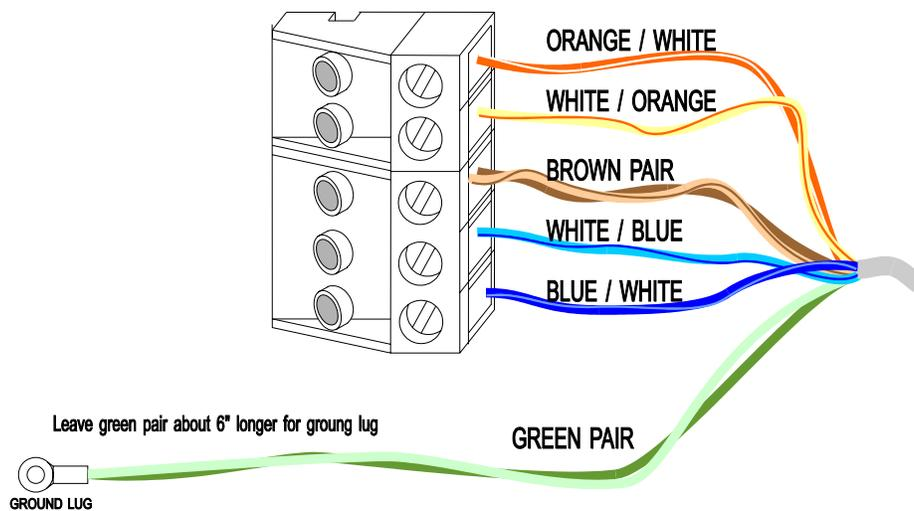

Figure 3.9 - Processor Port Wiring (Recommended Colors)
At the central panel enclosure it terminates to a 5 pin removable terminal block\*\* with the green pair left about 4"-6" longer for a ground lug. (See figure 3.9 and 3.10)
The Display cables are connected to a five (5) pin removable terminal block inside the central control enclosure. The Display Wires should be left about 20" long, strip outer jacket back about 16", cut all wire pairs except for the "Green Pair" back 8 to 10 inches, thus leaving the green pair (CHASSIS GROUND) approximately 6 inches longer. (See figure 3.9 and 3.10)